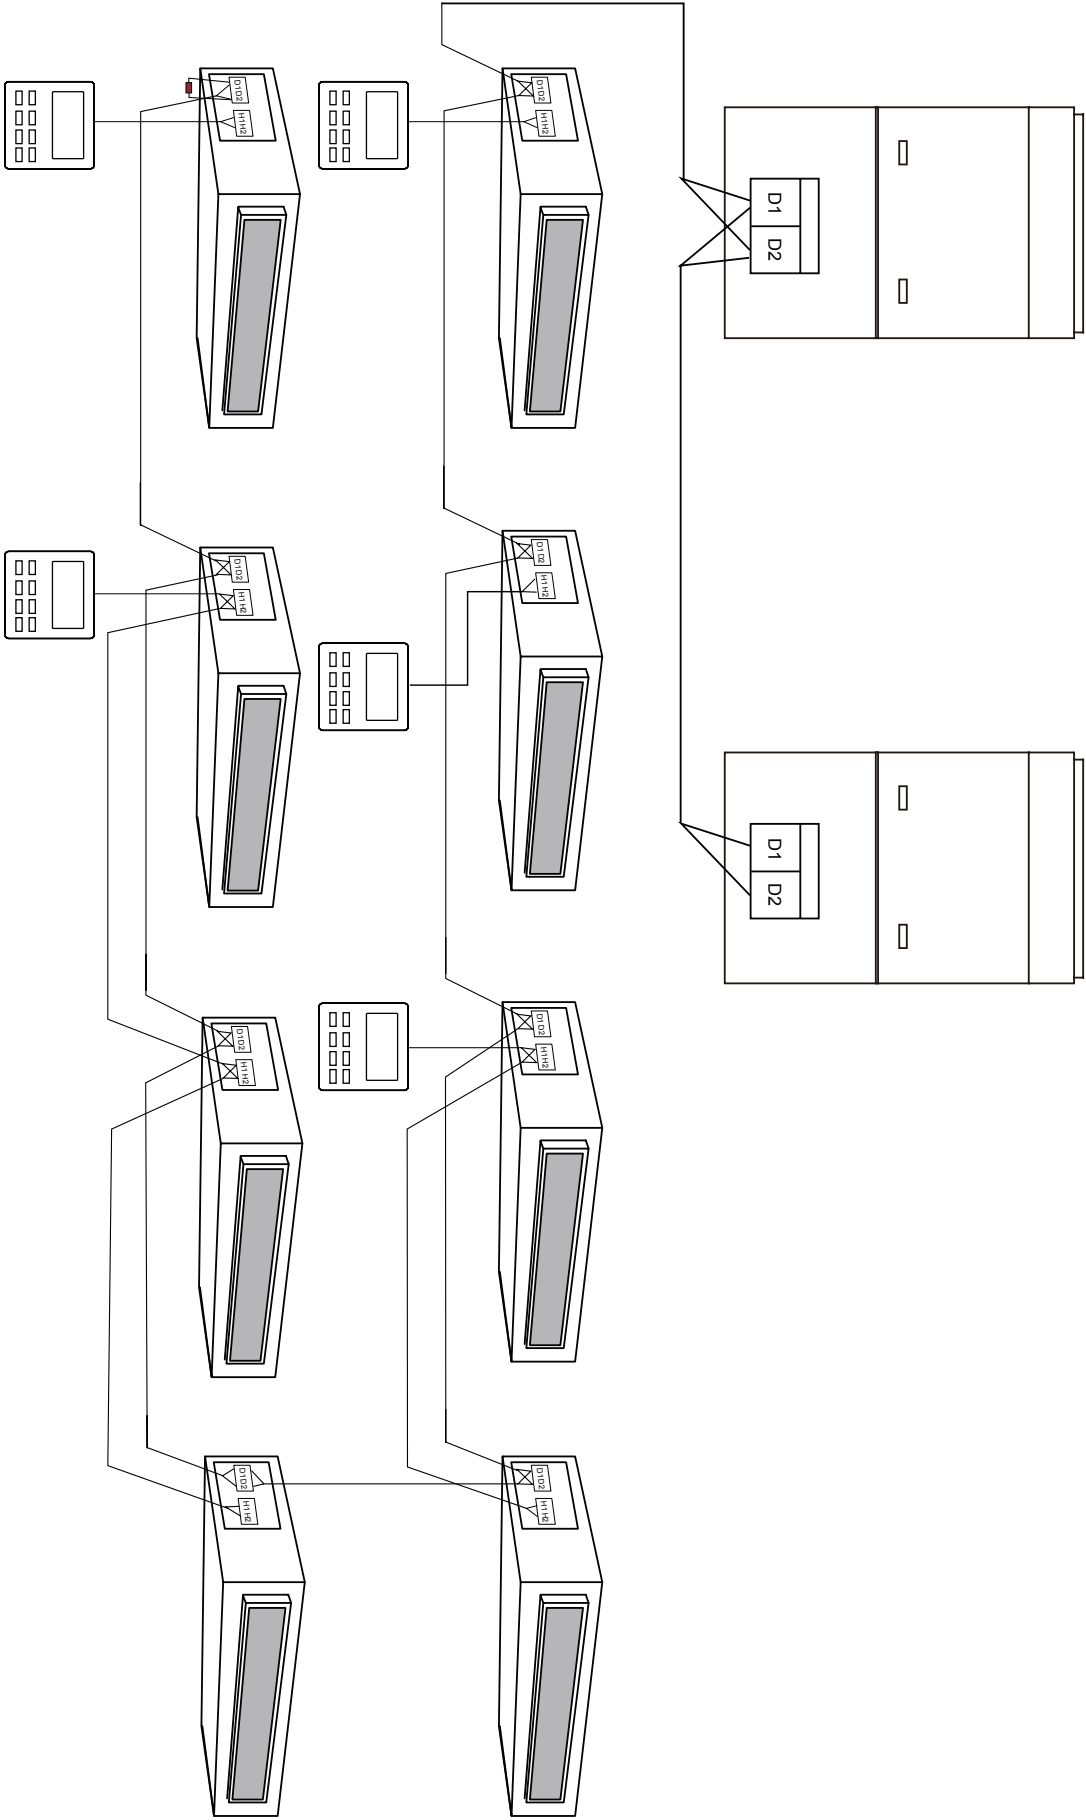

Fig 5.5
- (1) Communication wire of indoor unit and outdoor unit (or indoor unit) is connected to D1,D2.
- (2) Wired controller is connected to H1,H2.
- (3) One indoor unit can connect two wired controllers that must be set as master one and slave one.
- (4) One wired controller can control 16 indoor unitS in maximum at the same time. (as shown in fig5.5)